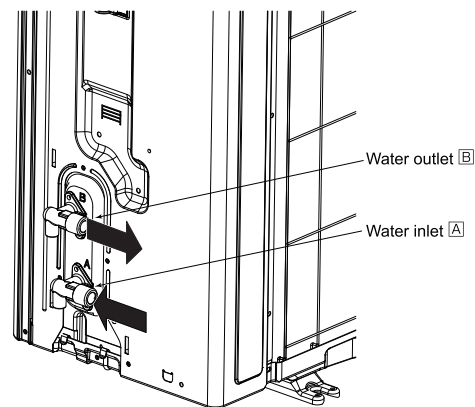

Fig. 5-1
5.1. Water piping connection (Fig. 5-1)
- Inlet and outlet pipes position is shown on the Fig. 5-1.